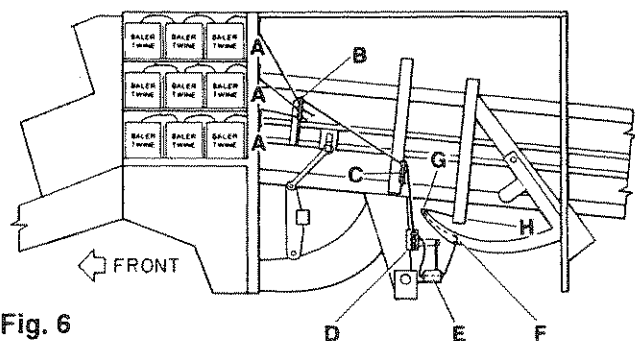
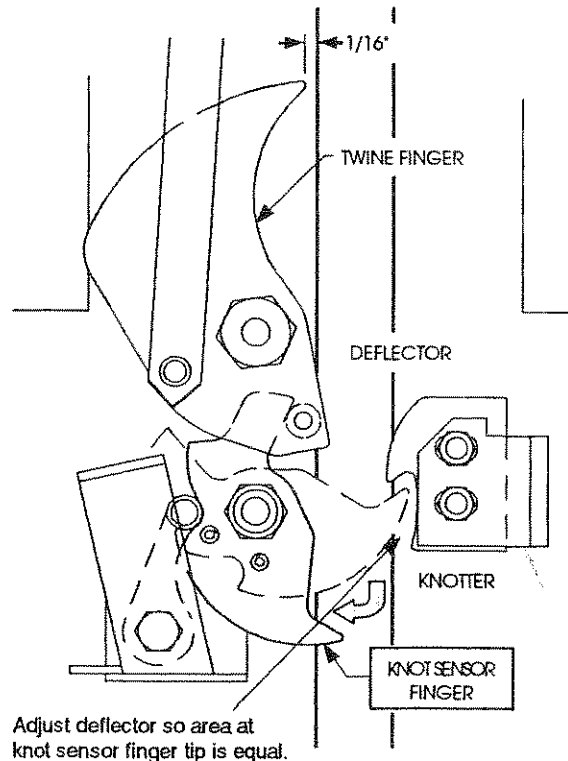

Fig. 6
Fig. 14
2. Route twine through the three guides (located top, center and bottom) on the rear of the twine box, see (A), Fig. 6.
3. Route twine through the guides near the middle of the chamber, (B); and through the guides mounted forward of the baler tires near the bottom of the chamber, (C); then, through the guides just above the baler axle, (D); see Fig. 6.
5. Thread the twine through the needle rollers, (F), see Fig. 6, located 22 inches from the tip of the needles; then through the needle eyes, (G), located at the tip of the needles.
6. Tie each twine to the cross member located above the twine tensioners on the bottom of the chamber, (H). Each twine should be individually tied directly above the twine tensioner through which it is threaded.
7. Once the needles have cycled and the knotters are loaded with twine, remove the twine ends from the crossmember, (H); then, manually pull the knot sensor fingers, located on top of the chamber underneath the knotters, see Fig. 14.
In the event of a mistie, the appropriate indicator will remain lit. To turn the indicator light off, you must manually pull the knot sensor finger rearward, see Fig. 14. **Care must be taken to ensure that the roller on the under side of the twine finger does not accidentally fall behind, (left side), the upper leg of the sensor finger.** See diagram below.